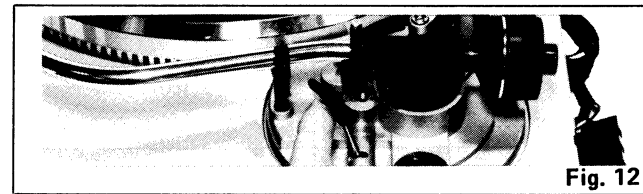

Fig. 12
5. Set the cueing lever to the up position. (See Fig. 12.)